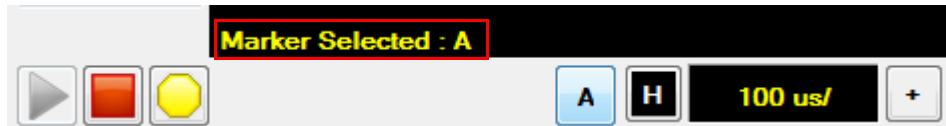

Figure 2-111 Marker indicator on the graphical interface
- 2 When selecting or toggling between markers, the marker indicator is displayed on the graphical interface as shown in Figure 2-111.